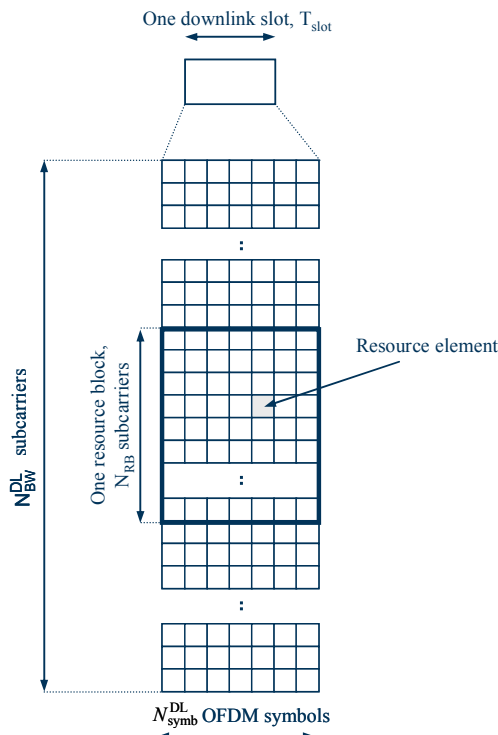

Fig. 5 Downlink Resource Grid
Fig. 5 shows the structure of the downlink resource grid for the duration of one downlink slot. The available downlink bandwidth consists of  $N_{BW}^{DL}$  subcarriers with a spacing of  $\Delta f = 15$  kHz. In the case of multi-cell MBMS transmission (see chapter 7), a subcarrier spacing of  $\Delta f = 7.5$  kHz is also possible.  $N_{BW}^{DL}$  can vary in order to allow for scalable bandwidth operation up to 20 MHz. Initially, the bandwidths for LTE were explicitly defined within layer 1 specifications. Later on a bandwidth agnostic layer 1 was introduced, with  $N_{BW}^{DL}$  for the different bandwidths to be specified by 3GPP RAN4 to meet performance requirements, e.g. for out-of-band emission requirements and regulatory emission limits.
Data is allocated to the UEs in terms of resource blocks. A physical resource block consists of 12 (24) consecutive subcarriers in the frequency domain for the  $\Delta f=15$  kHz ( $\Delta f=7.5$  kHz) case. In the time domain, a physical resource block consists of  $N_{\text{symp}}^{\text{DL}}$  consecutive OFDM symbols, see Fig. 5.  $N_{\text{symp}}^{\text{DL}}$  is equal to the number of OFDM symbols in a slot. The resource block size is the same for all bandwidths, therefore the number of available physical resource blocks depends on the bandwidth.